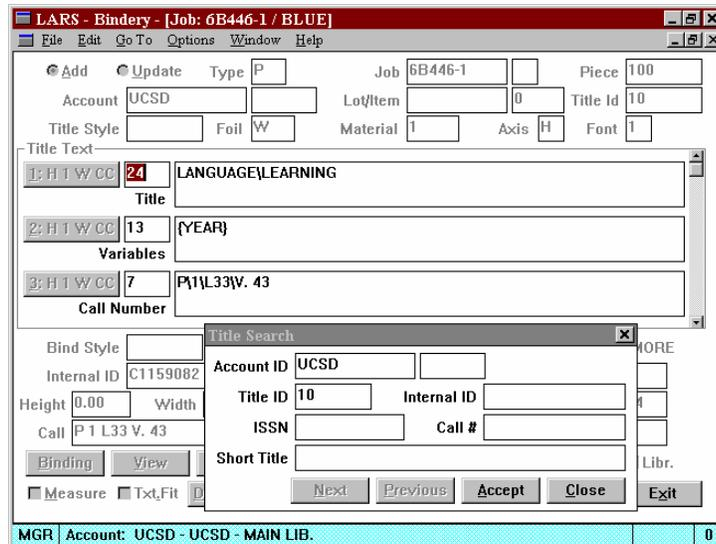

Figure 45 - Title Search
**Title Search (Ttl Srch)** click this button to retrieve titles from the permanent title database. The title search window (*Figure 45 - Title Search*) is displayed.
Enter text into the **Short Title** field and the **A**cept button will change to the **S**earch button (see Figure 45). Press the **S**earch button and if the title is not found in the database, then a title near to the one that you want will fill the title text section. Use the **N**ext and **P**revious buttons to search for the title that you want. This strategy works with the other fields, except for the **T**itle ID.